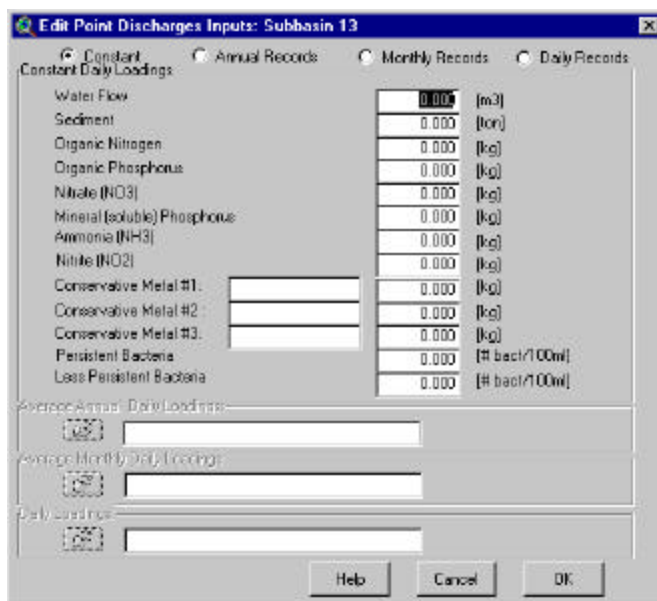

Figure 4.26
- iii. If the mouse cursor was located over a subbasin with point discharges when right clicked, a dialog box will display the subbasin point source input values (Figure 4.26).